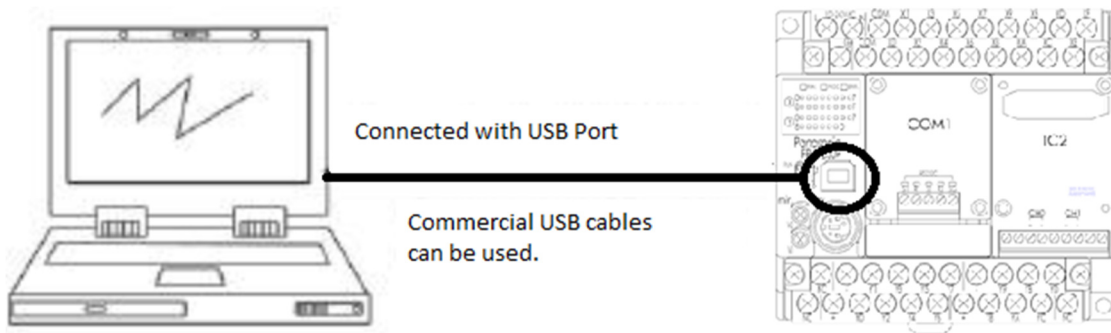

Figure 11 AFPX PLC
- a) Standard A to Standard B. (Figure 11)